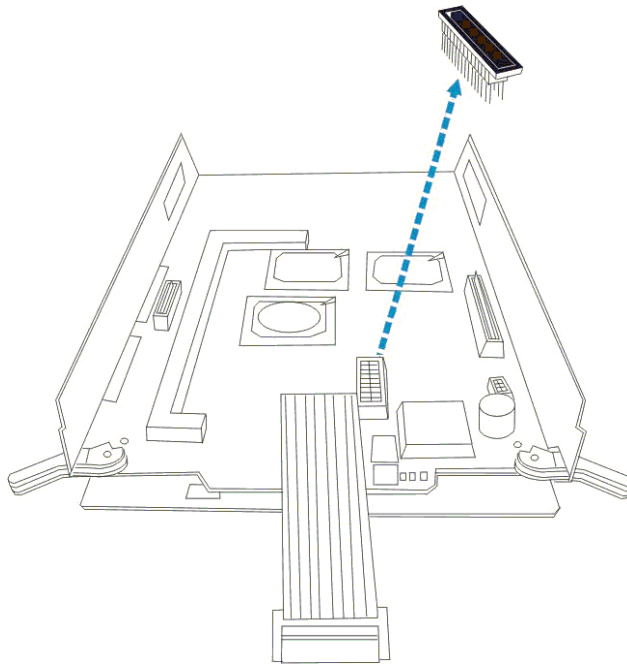

Figure 2-4: Remove the Battery Connector Cap
- Step 2.** *Remove the Battery Connector Cap* – The connector that facilitates the connection of the BBU is covered with a connector cap that must be removed. Remove this cap by gently pulling it in an upward direction. Put the cap in a safe place in case it needs to be replaced at a future time. See *Figure 2-4*.